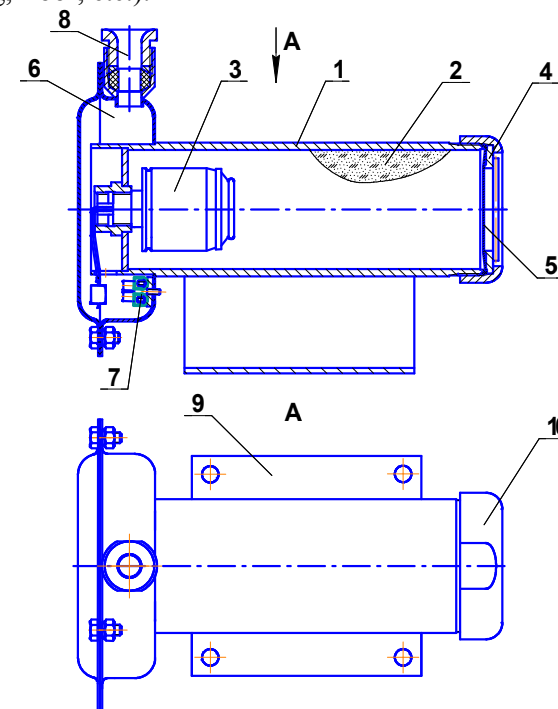
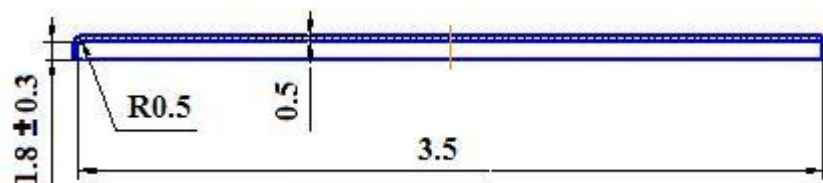

Figure 1
Figure 5
4.1.1 The MPP (see Figure 1) consists of a case **1** where fire extinguishing powder (OP) **2** and cold gas source (CGS) **3** are placed. In the front part of the case there is a nozzle-sprayer **4**, the output hole of it is closed by membrane **5**.
7.3 On reloading and assembling the MPP after its operation, it is necessary to replace the CGS (pos. 3, Figure 1) CGS-0.65(M)-01 CIAB 066614.020.000 TU and place the disk (membrane) (pos. 6, Figure 1) made according to the drawing (Figure 5), Sheet AM_цH2-0.5 GOST 21631-76. After placing the membrane, tighten the nut under load (150 ± 10) N·m.